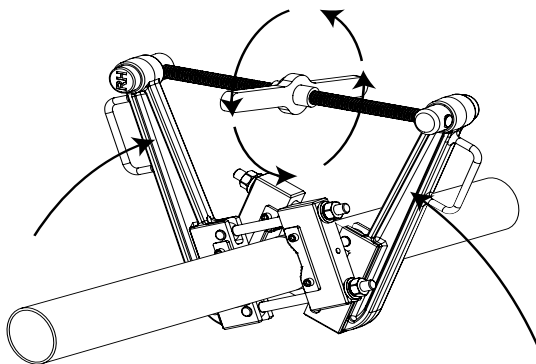

Fig. 10
4. Turn the spinner handle in a direction that draws the first and second wrench handles toward each other, thereby tightening the joint between first and second components. Continue tightening until the two components make full shoulder contact, then continue to turn spinner handle for 1/4 to 1/2 revolution. The joint is now properly tightened (see Fig. 10, 11).